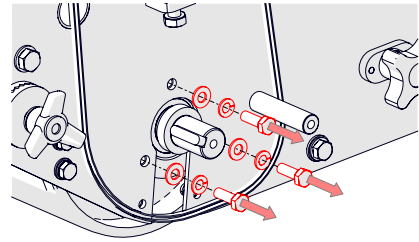
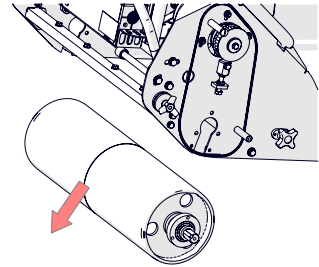

Fig. 25K - Remove RH bearing hex screws
Fig. 25L - Remove the rear roller.
14. From the RH side, remove the 3 x hex screws supporting the RH bearing [13 mm spanner]. (Fig. 25K). Support the rear roller down and away from the machine (Fig. 25L).